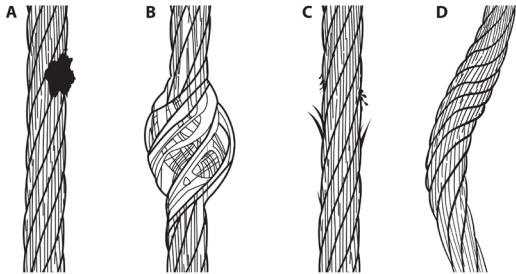

Figure 9: Inspection of Cable
| Inspect the entire length of the constituent line up. Review the cable lifeline closely for broken strand wires, welding spatter burns, welding slag, bird caging, kinks and bent strands. Also examine for rust, dirt, paint, grease or oil. Check for damage caused by chemical corrosion or excessive heat as evident with discoloration. See Figure 9 for examples. If any of these conditions exist, remove the SRD from service. |      |      |
Extract all of the cable and check the entire working length for damage caused by chemical corrosion or excessive heat as evident by discoloration (A), bird caging (B), broken wire strands (C), kinks and bent strands (D), see Figure 9. The cable should retract completely without faltering and should remain taut under tension without sagging.